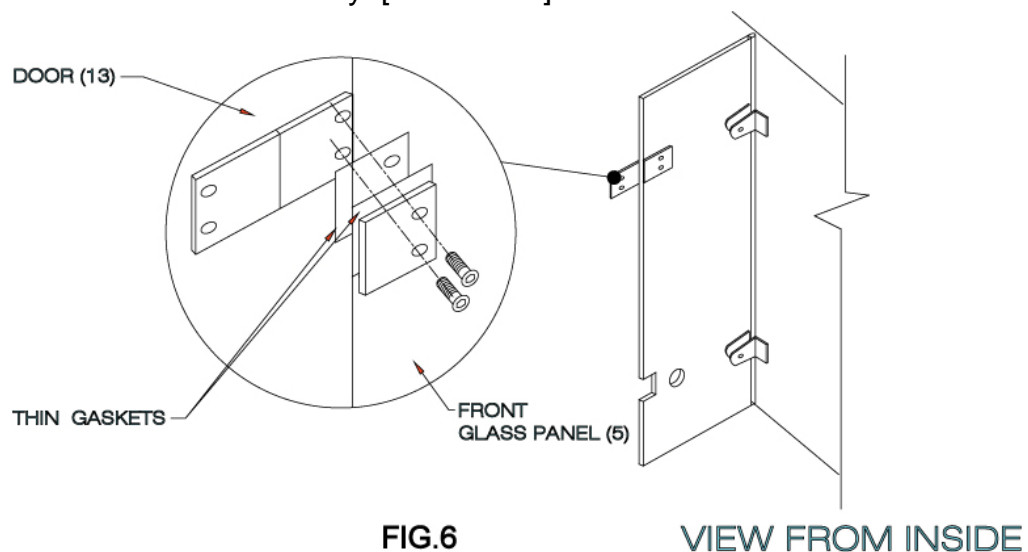

FIG.6
2. Screw the glass support (#7) to the front glass panel (#5) with a washer on each side of the panel as shown. Use hex key. [SEE FIG.6]